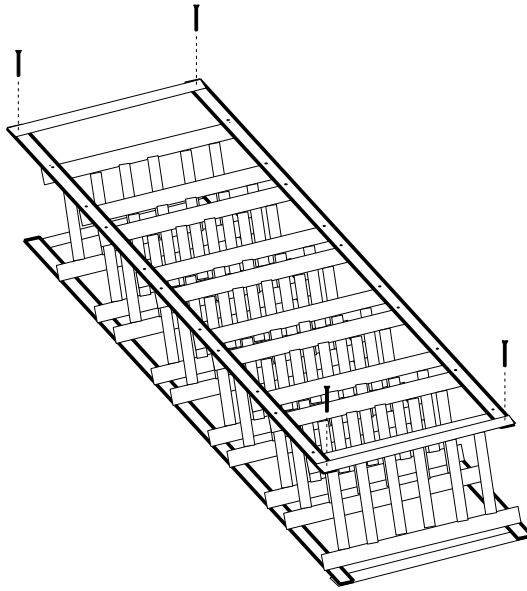

figure 3
4. Attach top and bottom trim piece on both sides using the 1" wood screws that came with your rack. (see figure 3)